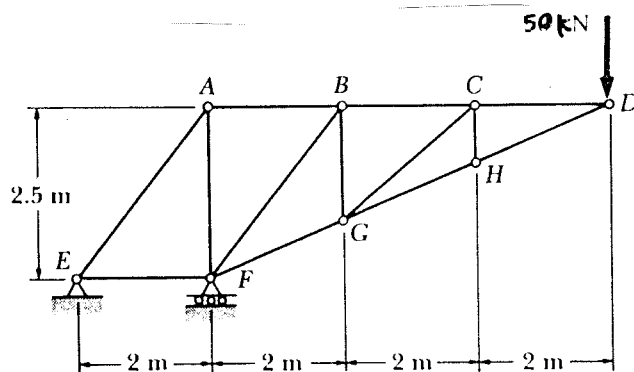

Fig. P5
- 5) In the truss shown in Fig. P5, determine